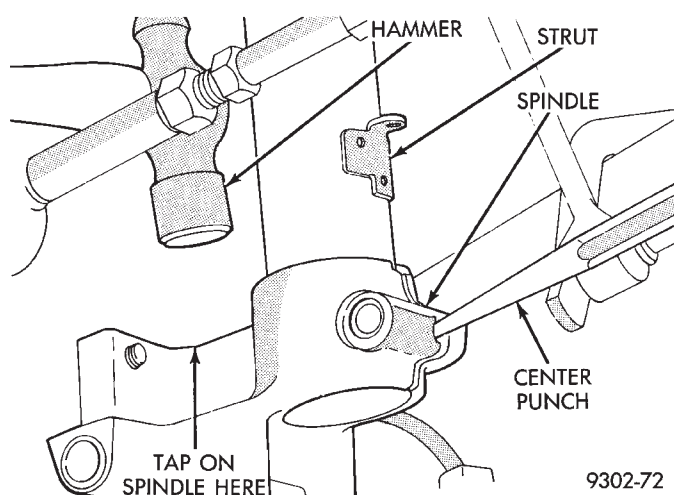

Fig. 12 Removing Spindle From Strut Assembly
(14) Using a hammer, tap on top surface of spindle driving it down and off the end of the strut assembly (Fig. 12).